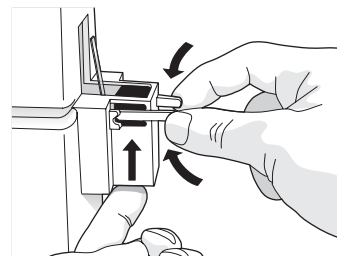

Figure 8f
3. Squeeze tabs together and push up on switch from bottom. (See Figure 8f.)